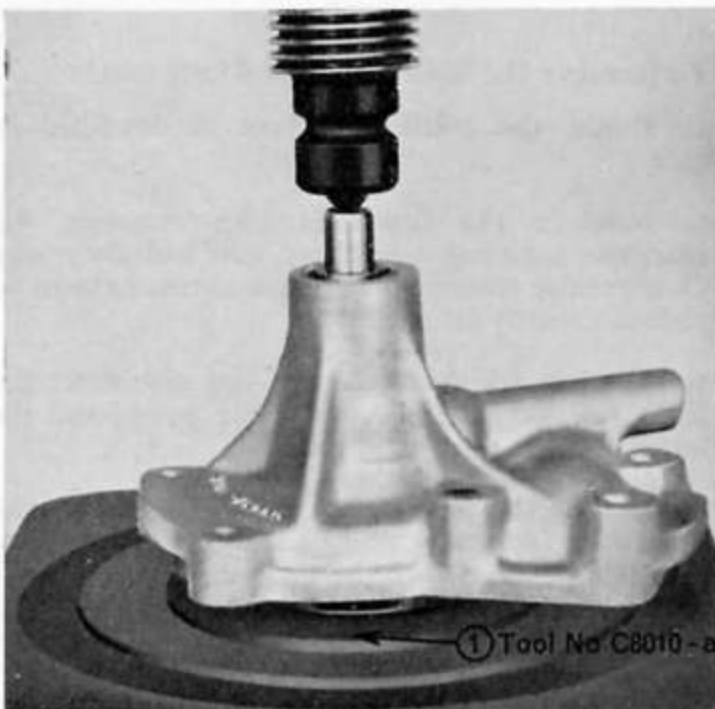

Fig. 5
4. Press the impeller onto the rear of the shaft, using the 370 Universal base and adaptor C.8010-a (Fig. 5).